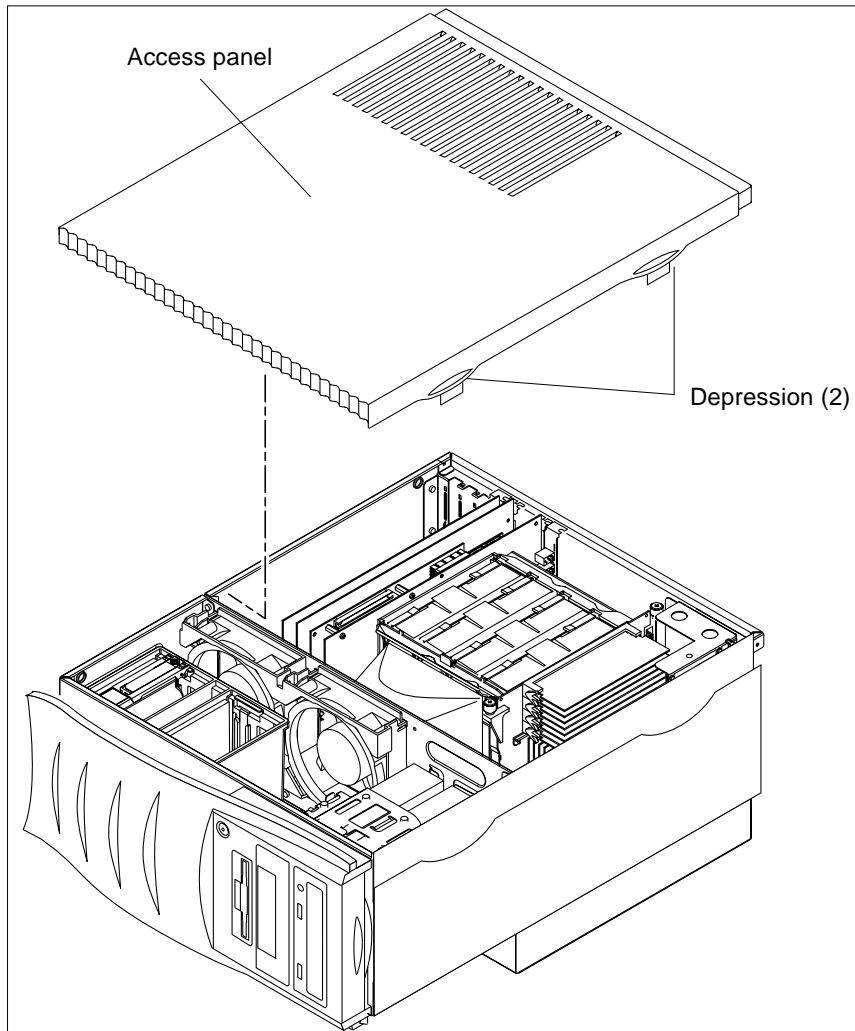

FIGURE 6-3 Removing/Replacing the Access Panel
- b. **Place the system in the service position** (FIGURE 6-3).
Replace the access panel and power on the system as follows (FIGURE 6-3 on page 6-4):